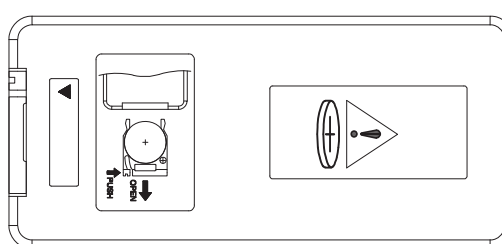

Figure 4
4. Press the battery bracket into the remote control, making sure it snaps into position. (Figure 4)